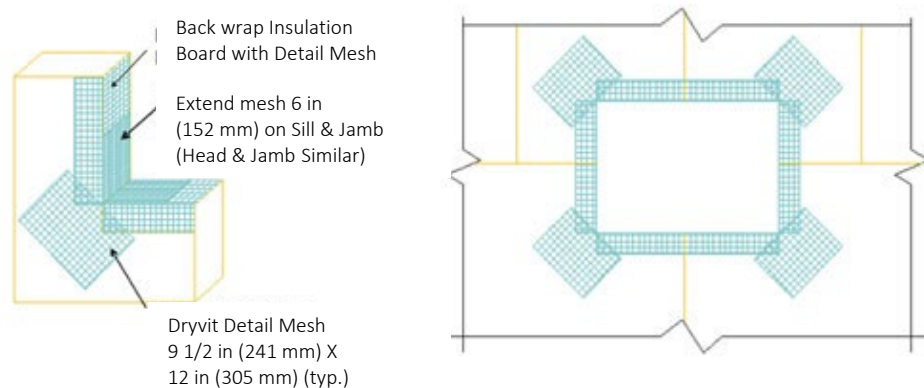

Fig. 19
19. Corners of all openings such as windows, doors, mechanical equipment and all penetrations shall be reinforced with Detail Mesh placed diagonally to the opening as illustrated in Figure 19.